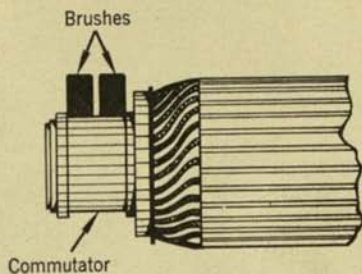

Figure 12. Brushes binding on commutator
6. The commutator may be rough, dirty, oily, or worn out. A commutator may be smoothed and cleaned with fine sandpaper (5-0 or finer). *Never* use emery cloth. Emery dust is a conductor and will cause shorts between the segments of the commutator. As one segment becomes shorted with another, the motor runs slower and hotter. For the same reason oil and dirt should be kept from between the segments of the commutator. If the space between the commutator segments becomes filled and dirt piles up on the surface of the commutator, the brushes will bounce. The commutator becomes blackened and low spots form from continual sparking. If the brushes wear a deep slot in the commutator, the brushes may bind on the sides of the slot and bouncing will result (Figure 12).